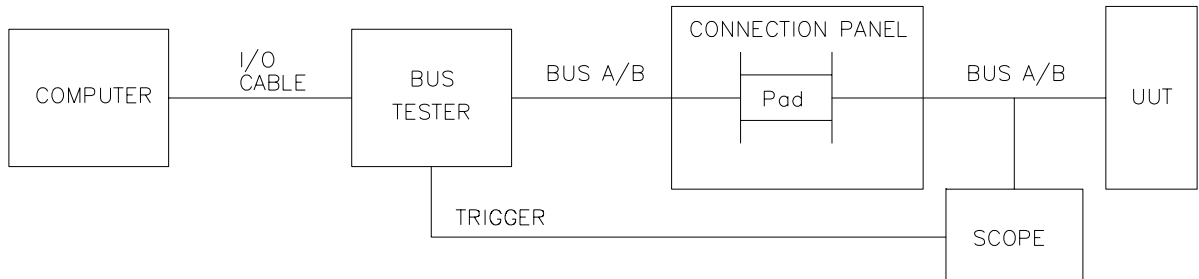

Figure 4. General Electrical Output Test Configuration
1. Use the test configuration in Figure 1 for transformer or direct coupled connections. Connect a cable from the UUT to the appropriate Pad or Load on the CONNECTION PANEL. Use the TC PAD or 70 OHM load for transformer coupling or the DC PAD or 35 OHM load for direct coupling. See Figure 4 of the RT Validation Test Plan for the Pad schematic.
1. Connect equipment as shown in Figure 4 for the selected bus to be tested (A or B). Note: Use the TC PAD for transformer coupling or the DC PAD for direct coupling. See Figure 1A of the RT Validation Test Plan for the Pad schematic.
9. Connect the oscilloscope back to the active bus (see Figure 4).